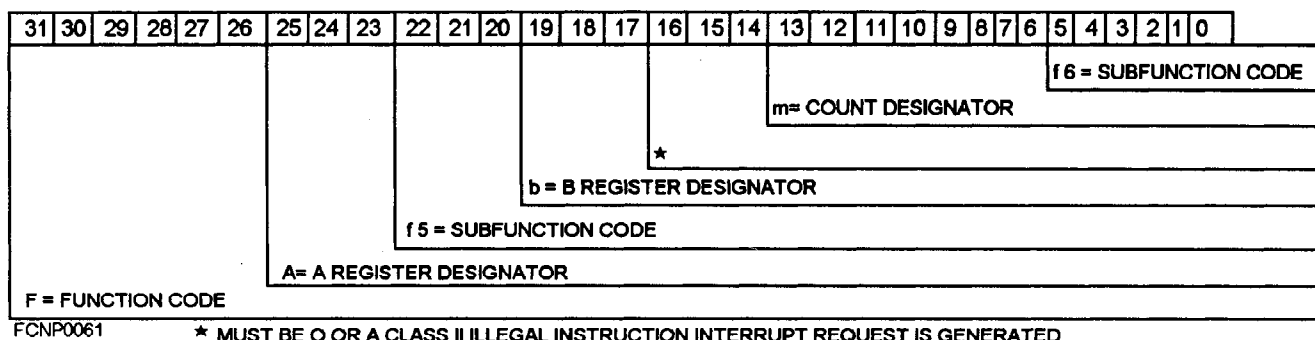

Figure 8-9.—Illustration of instruction word format V.
• **Format V** —Format V instructions are full-word format instructions (fig. 8-9) used for single and double-precision floating-point math operations and other large magnitude number functions. In this format the **f**, **fs**, and **fe** fields are used to define the specific operation to take place. The **a** and **b** fields are used for accumulator and index register definition. The **m** field provides decimal point positioning values for floating point operations.